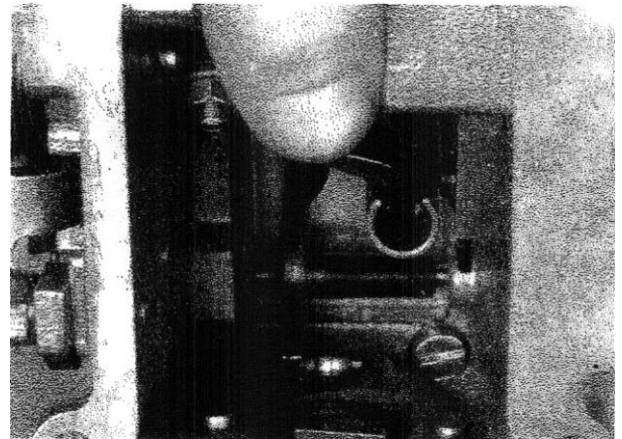

Fig. 25
4.15. Adjusting the starting volume. The starting lever must not rub on the inside of the control rod head (fig. 25), fit the governor cover with seal. Connect start solenoid to a 12 V battery. Check control stroke and/or delivery volume at the rpm specified in the inspection sheet. Adjust at the domed cap nut of the start solenoid. Do not keep the start solenoid energised longer than necessary!